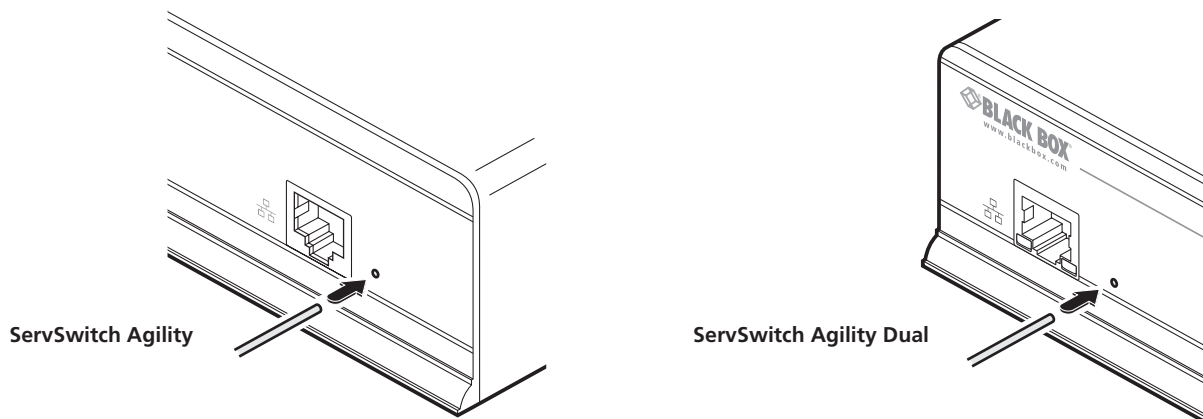

Figure 4-1. Use a straightened-out paper clip to press the reset button while powering on the unit.
- 2 Use a narrow implement (e.g. a straightened-out paper clip) press and hold the reset button adjacent to the front panel network socket. Power on the unit and then release the reset switch. See Figure 4-1.